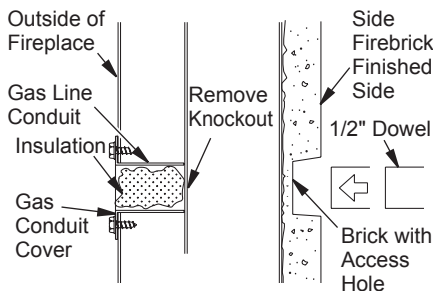

Figure 24 - Gas Line Access
1. Remove knockout indentation on refractory or firebrick wall located above refractory hearth floor. Knockout indentation must be firmly tapped with any solid object such as a 1/2" dowel until it is released. Remove fragmented portions of refractory (see Figure 24).